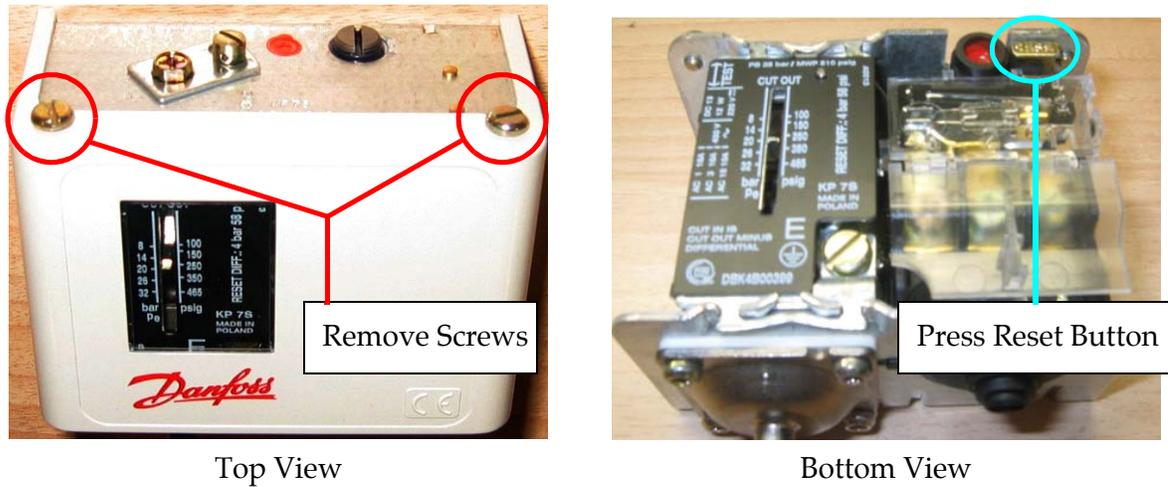
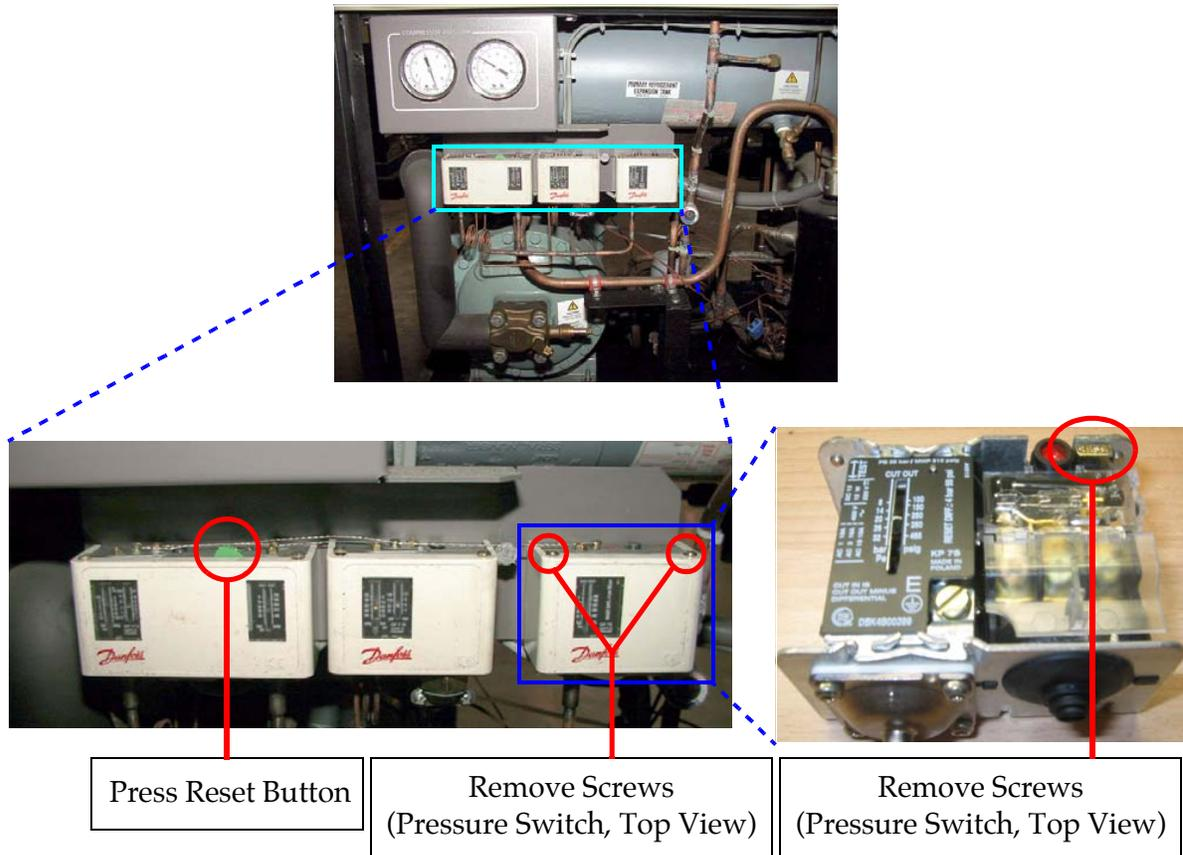

Figure 7-2: Pressure Switch
Figure 7-7: 551 and 661
**NOTE:** With the following figures (Figure 7-2 through Figure 7-7), identify the correct pressure switch for your unit and press the green reset button to reset the switch. If your unit has a reset switch internal to the switch unit make sure to reset it.
A discharge pressure fault requires a resetting of the manual pressure switch. In some cases (models 551, 661, 1101, and 1102) the reset switch is internal to the switch unit as shown in *Figure 7-2*.